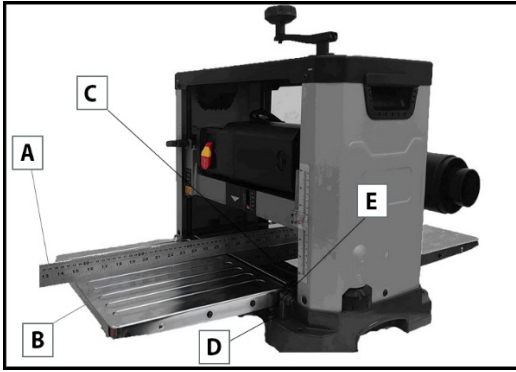

Figure 5
1. Lay a straight edge (A) on the planer table (C) with one end of the straight edge over the infeed table (B). See FIG 5.
3. If an adjustment is necessary, raise table, loosen lock nuts (D) and adjust Hex Head Screws (E) on each side of the table until the infeed table is level with the planer table. This will adjust the outer edge of the table.